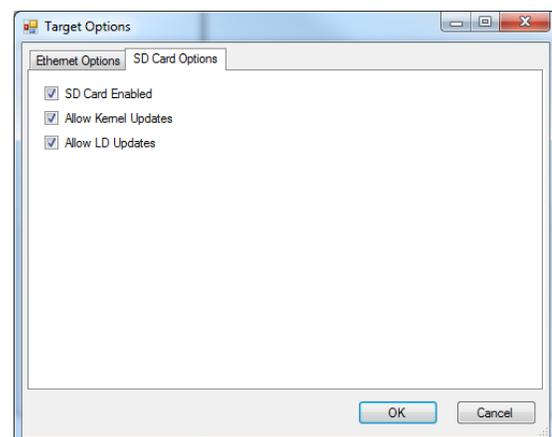

Figure 2-19 - SD Card Options
8. Click the **TARGET OPTIONS** button. The Target Options window will open. There will be two tabs in this window. Click the **SD CARD OPTIONS** tab. See Figure 2-19.